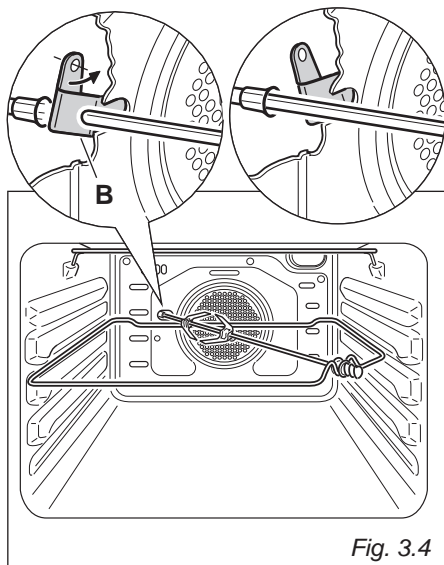

Fig. 3.4
MODELS WITH PLURIFUNCTION / MULTIFUNCTION WITH ROTISSERIE OVEN (figs. 3.4, 3.5)
- Insert the rod into the motor opening by moving to the right the baffle "B" (figs. 3.4, 3.5). It is correctly fitted only if the rod does not turn when inserted. It will then rotate only when the spit motor is operating (check the right rotation of the rod).